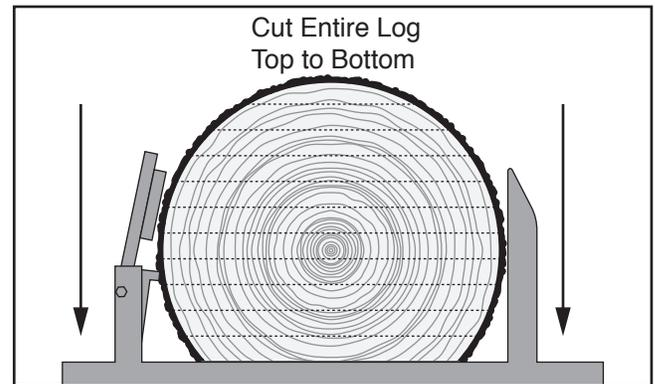

Figure 85. Log rotated 180° for live sawing.
5. Rotate log 180° and secure with log supports and clamps (see **Figure 85**).